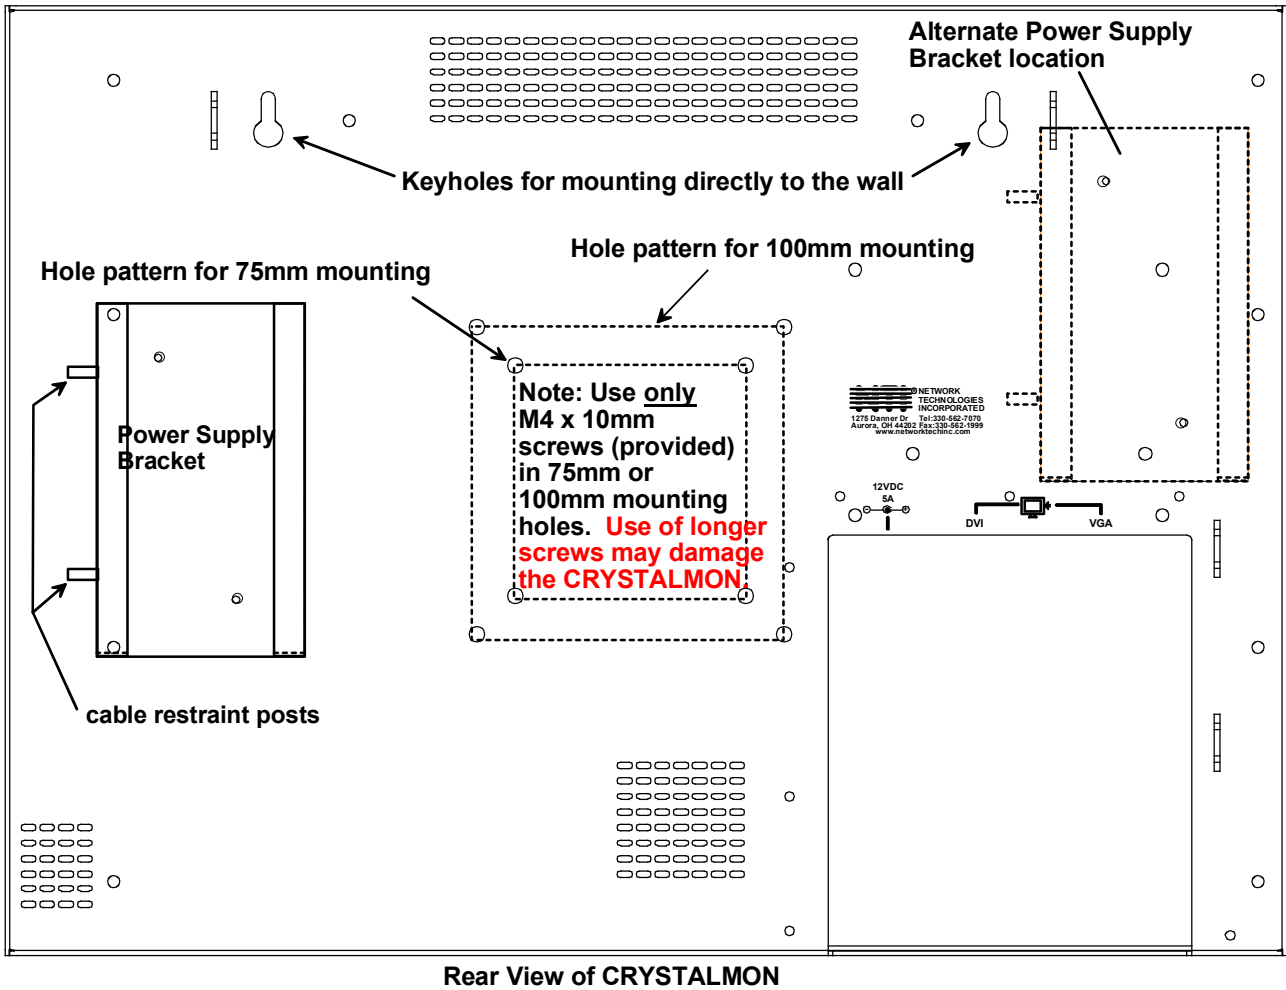

Figure 2- Mount CM-WL17 to an arm or bracket
Mount the selected Wall Mount LCD Arm or bracket assembly to the wall. Attach the VESA mounting bracket from the selected Wall Mount LCD Arm to the four holes located in the back of the CRYSTALMON using the M4 x 10mm screws (4) provided. A set of holes is provided for either the 100mm bracket, or the 75mm bracket, whichever is needed (see Fig. 2). (The 75-100mm mounting adaptor that is sometimes provided will not be necessary.) Follow the instructions that came with the mounting arm or bracket to complete the assembly.
If it is desired to mount the CRYSTALMON directly to the wall (model CM-WL17), two keyhole slots have been provided on the back of the CRYSTALMON for this purpose (see Fig. 2).
A power supply bracket has been supplied for the convenient mounting of the power supply for the CRYSTALMON. This bracket can be directly mounted to the CRYSTALMON. Two possible mounting locations are shown in Fig. 2 on Page 5.